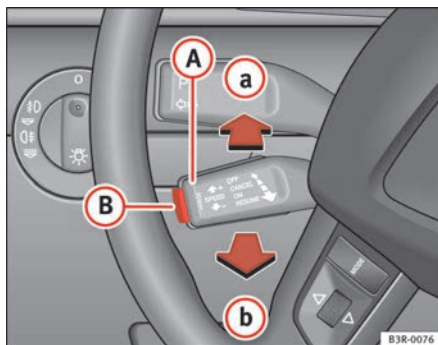

Fig. 144 Controls for the cruise control system
- press the lever **A** ⇒ fig. 144 to position **a** (click stop not engaged).